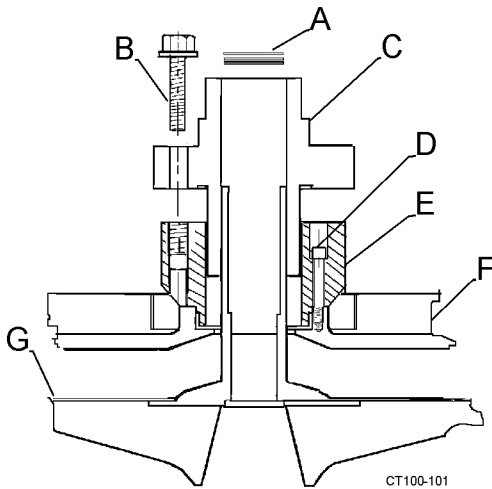

Figure 33 - Remove Seal Assembly.
**NOTE:** The clearance shims that position the impeller within the casing are at the end of the impeller hub (inside the seal.) Keep shims together as a set for reassembly. (Figure 33).
5. Remove cap screws (Figure 33, item B) holding the cartridge seal to the seal adapter. (Figure 33, items C and E).
7. Pull seal from seal adapter. (Figure 33, items C and E).
8. Remove seal adapter by removing socket head cap screws (Figure 33, item D) holding adapter to the back plate.
2. Check impeller/backplate clearance with the backplate held firmly in position against motor adapter. Check the space between the back of the impeller and the backplate with a feeler gauge (.030 nominal) while holding the backplate tight against the bearing housing flange. (Any axial movement of the shaft should not be added to the .030 nominal clearance). (Figure 34). If needed, change this clearance by adding or removing shims. Shims (Figure 33, item A) are added on the drive shaft behind the impeller shaft (Figure 33, item G).